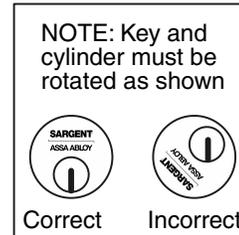

Figure 12
**CYLINDER MUST BE ORIENTED CORRECTLY. (FIGURE 12)**